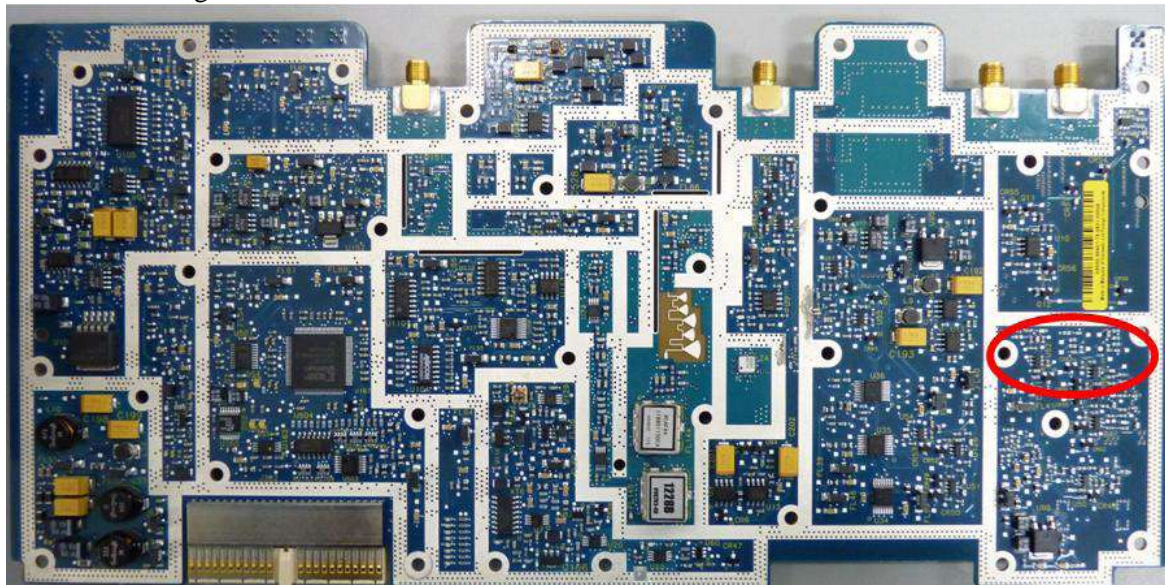

Figure 2 Bottom side of the RF board
4. Refer to figure 2 and 3 to locate the R71, R72, R73, R74, C81, C82 on the bottom side of RF board.